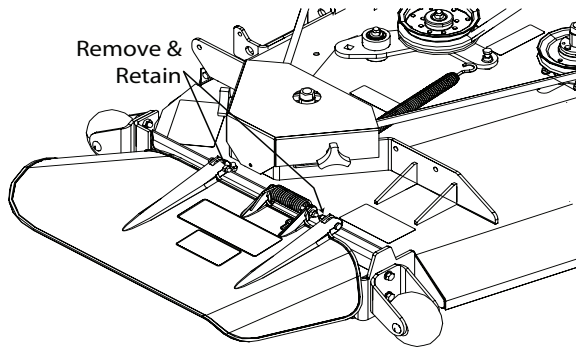

Figure 3-42. Removing the Discharge Chute
3. Remove the discharge chute from the machine. See Figure 3-42.